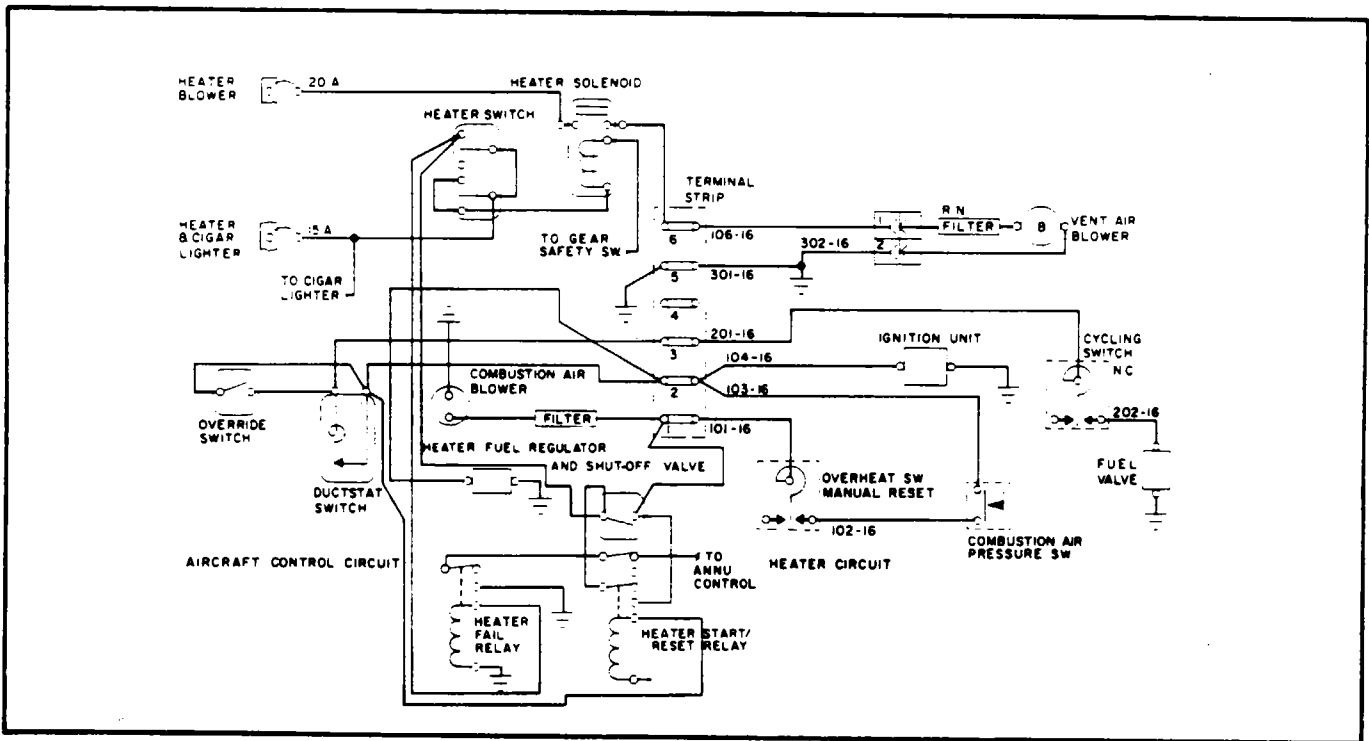

Figure 13-6. Wiring Schematic
The schematic wiring diagrams (Refer to Figures 13-6 thru 13-8) show, in addition to the heater circuitry, a suggested aircraft control circuit. For the purposes of this manual, the circuitry shown in these illustrations will be utilized to describe electrical continuity checks.
1. Install the limit switch (8) and two spacers (gaskets) by placing them in position in the heater jacket opening and installing two screws.
2. Tighten screws securely; then reconnect the electrical leads in accordance with markings made during disassembly. (If in doubt about electrical connections, refer to the wiring diagram, Figure 13-6.)
3. Install the cycling switch (11) by placing it in position in the heater jacket opening and securing it with the two screws. Tighten screws securely; then reconnect the electrical leads to their respective terminals as marked during disassembly. (If in doubt about connections, refer to wiring diagram, Figure 13-6.)